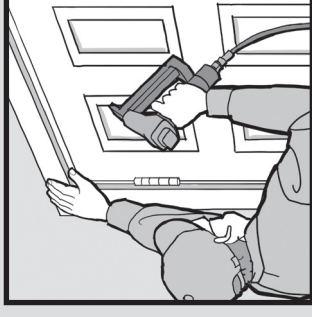

FIGURE 19
- 11.2.1. Replace door casing. (figure 19)